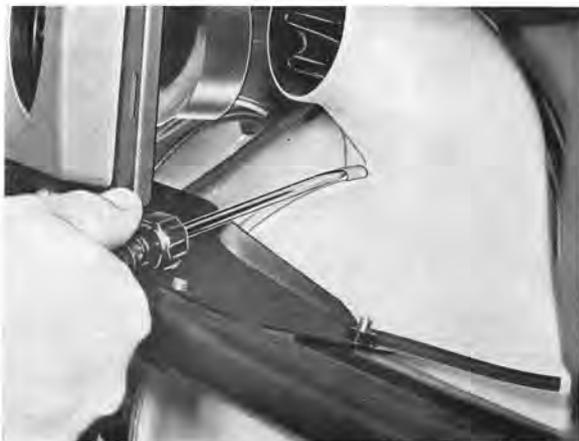

Fig. 8-58. Removing clamps for outer end
8. Remove the clamps on the central unit outer end (Fig. 8-58) and remove the end.
6. Remove the clamps on the central unit outer end (Fig. 8-58), and remove the end.